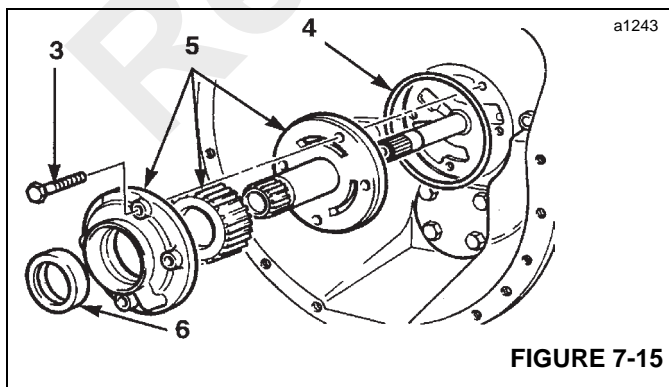

FIGURE 7-15
3. Unscrew bolts (3, Figure 7-15) and remove the pump (5).
4. Remove and discard pump sealing ring (4).
5. Separate pump components (5).
6. Remove and discard oil seal (6) from pump housing.